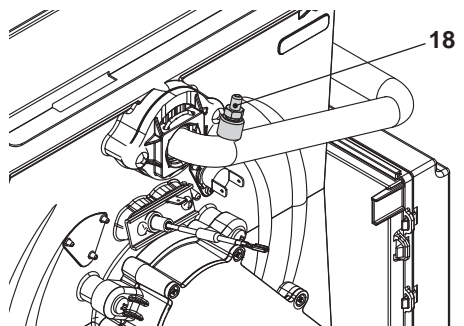

Fig. 7.2
- Unscrew the condensing heat exchanger air purger valve 18 (Fig. 7.2).
- Close the condensing heat exchanger air purger valve 18 (Fig. 7.2) when water begins to flow out.